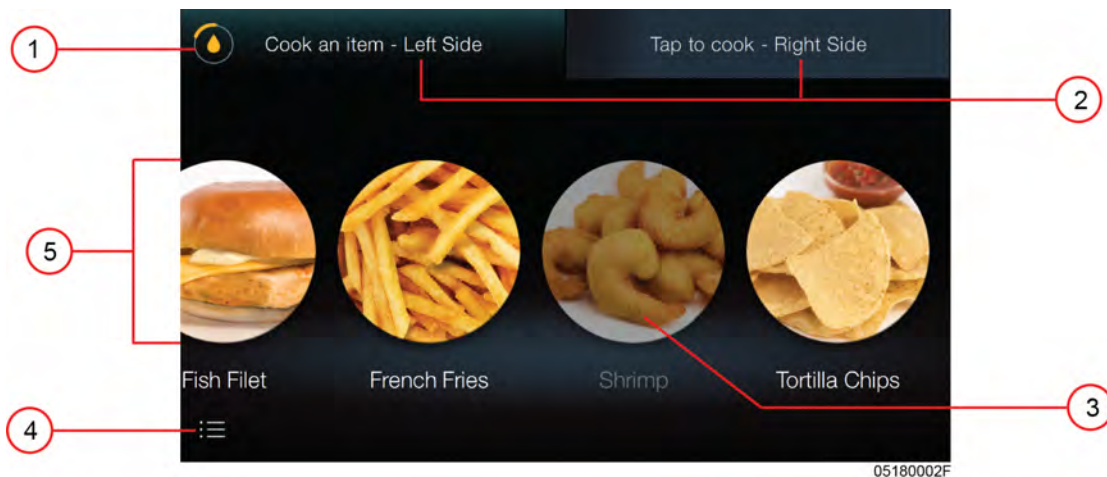

Figure 4-6 Homescreen
When oil temperature heats to 10°F (5.5°C) below setpoint, the fryer is in the ready mode, and the heat pulses to avoid temperature overshoot, see Figure 4-5 Ready to cook, page 22. When you are ready to cook, tap the **Cook on Left Side** button and this will take you to the homescreen with food items active for the left basket. Tap the **Cook on Right Side** button and the homescreen displays with food items active for the right basket, see Figure 4-6 Homescreen, page 23 for more information. **INFO:** The setpoint temperature of the oil is variable and can be changed in food items, see 5.3 Food Item Settings, page 43.
The homescreen is the primary operating screen of the F5. From this screen, you can start timers, access oil information and enter the settings menu. There are two tabs (2) at the top of the home screen used to select whether the display is active for the left side or the right side. The left side in Figure 4-6 Homescreen, page 23 is active because the left tab shows **Cook an item - Left Side**. To activate the right side, tap the **Tap to cook - Right Side** tab. The food items displayed on the homescreen apply to the active side only. Settings accessed from the homescreen apply to both sides for full vats, but some features in settings apply only to the active side for a split vat.
These are grayed out food items which require an oil temperature change before cooking, see Figure 4-6 Homescreen, page 23. Tapping on an incompatible food item opens a display which lets you know that either the oil needs to heat or cool down to a new setpoint.